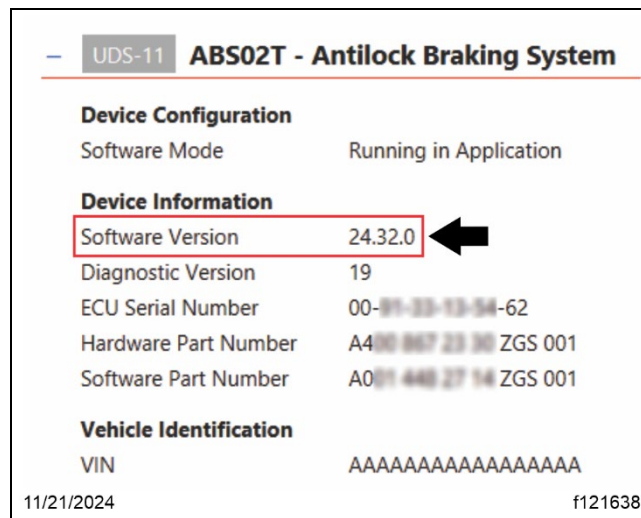

Fig. 59, ABS ECU Software Version
- 17.3. Open DiagnosticLink(DL) latest version (8.21 sp1 at time of publication). In order for DL to receive the latest 'cbf' files related to this Recall DL must 'Connect to Server' (via 'Program Device' or 'Tools/Update'). Once DL is connected to server, go to the 'Identification' tab. Navigate to ABS02T - Antilock Braking System, and verify the 'Software Version' is '24.32.0.' See Fig. 59.